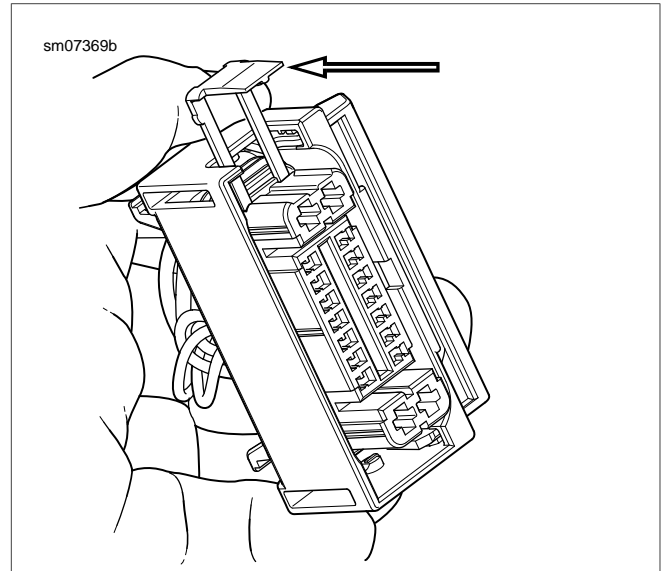

Figure A-71. Tyco MCP Connector Secondary Lock
2. See Figure A-71. Gently slide the secondary lock out of the connector with a screw driver.